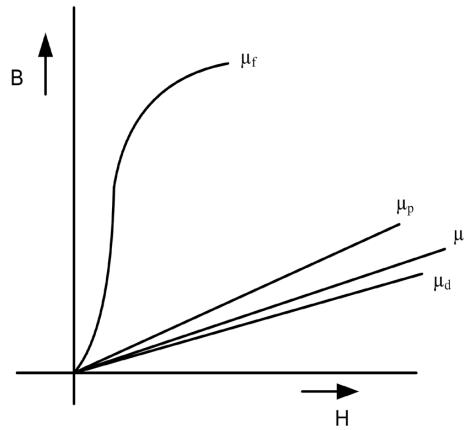

Fig. 4.8: B-H curve of different types of magnetic material
Fig. 4.8 shows the permeability of different types of magnetic materials. The subscript shows whether the material is ferromagnetic, paramagnetic, free space or diamagnetic.
The magnetic field generated by a single conducting wire is not very strong. The field intensity can be increased by giving shape to a conductor as a tightly wound coil having N turns. The arrangement effectively increases the current linked by the flux lines N fold. The product $N \cdot I$ is called the magneto motive force F and its unit is ampereturns (AT). Fig. 4.8 shows a ferromagnetic material having circular cross section is excited by a coil having N turns and carrying a current I. The flux established in the magnetic core is circular in shape with major portion of the flux lines passing through the core due to its high permeability. The small portion of the flux line that passes through air is known as leakage flux.
is called the self-inductance of the coil and its unit is H(henrys). For a ferromagnetic material with B-H curve as shown in Fig. 4.8, the curve being nonlinear, the self-inductance corresponds to an incremental value corresponding to incremental change around an operating point on the curve.